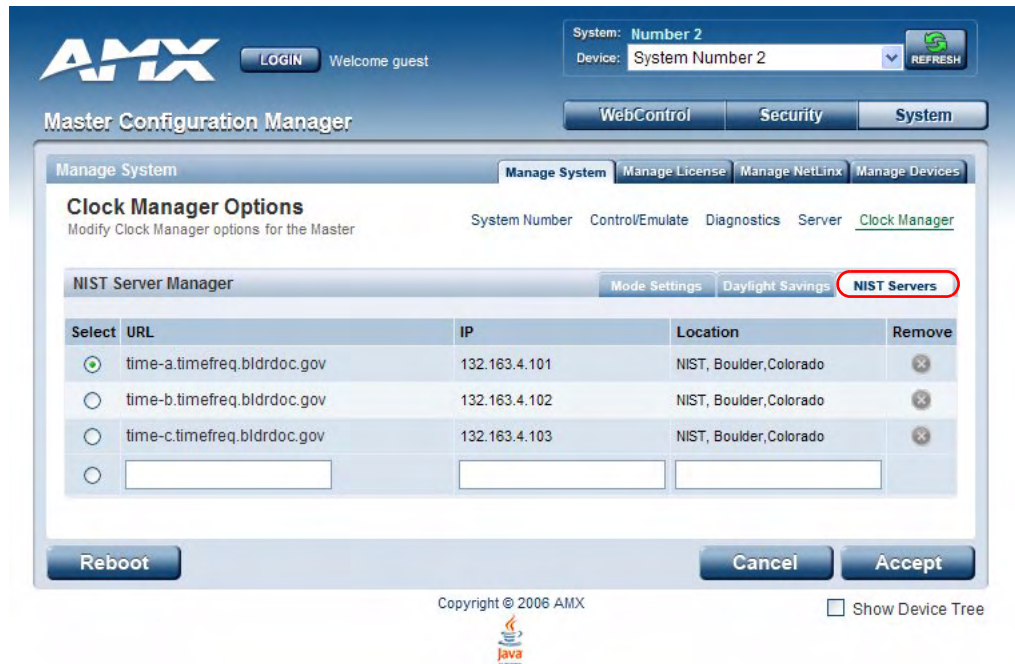

FIG. 15 Clock Manager Options - NIST Servers tab
1. In the *NIST Servers* tab (FIG. 15), use the radio buttons to select one of the NIST Servers in the list.